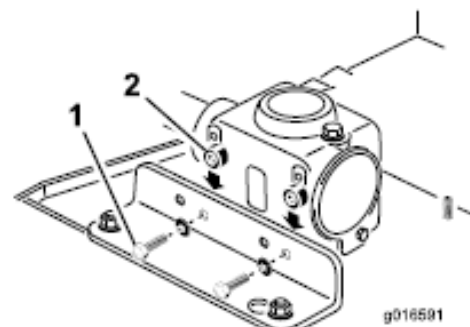

Figure 3
7. Loosely install the (2) new screws, previously removed washers and (2) new spacers (included in the kit) to the right support bracket as shown in Figure 3. The screws must be left loose to allow the alignment of the screws on the other side of the gearbox.